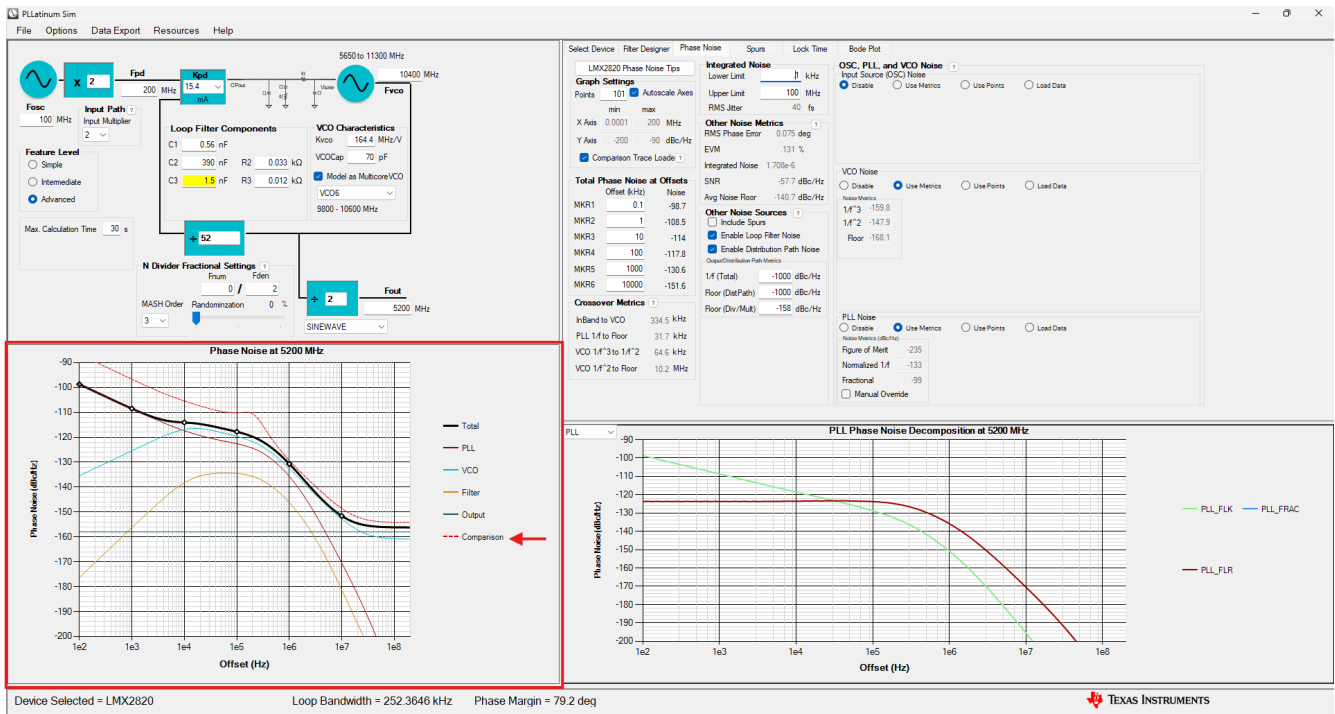

Figure 11-2. PLLatinum Sim Traces' Comparison
3. When the pop-up appears, navigate to the file folder where the phase noise curve of the converter is located, and select the that file. The converter's phase noise curve will appear in the bottom left plot of PLLatinum Sim, labeled *Comparison*, and represented with a red dashed line, as demonstrated in Figure 11-2.